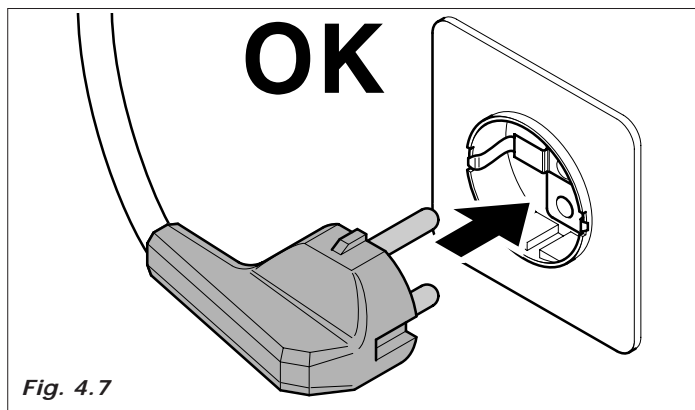

Fig. 4.7
- The distributor is equipped with a power supply cable of H05VV-F 3x1,5mm2, with SCHUKO plug (Fig.4.7).